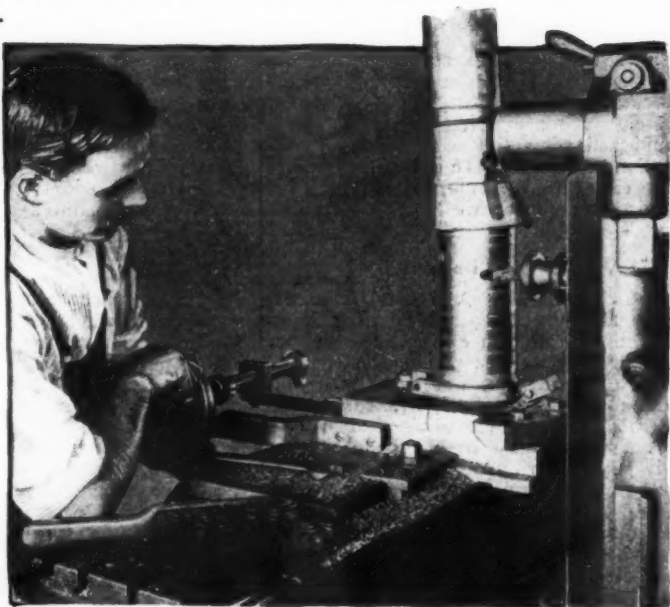

Fig. 1—Cutting the valve ports in the Knight sleeve at the Stearns factory
Fig. 1—At the top is shown the curb post forming the pump housing of the American pump. The lower half of this illustration shows the Red Sentry installation of the Bowser company
S. F. Bowser & Co., Fort Wayne, Ind.—Under the name of Red Sentry the Bowser Company makes a sidewalk pump with the self-measuring feature. The installation of this system may be seen from Fig. 1. It consists essentially of a self-measuring Red Sentry pump and an underground storage tank with connecting pipe. No pressure is used in the pressure or distributing system, the pump being all of either suction or force type, the power all being in the pump itself. Any competent plumber can install the system and the tanks in use vary in capacity anywhere above 65 gallons. The pump is located at the curb and occupies a space of 12 inches by 14 inches on the sidewalk. It is so designed that it discharges, at a single stroke, a gallon, half gallon, quart or a pint. It is only necessary to set the pump at the desired quantity by adjusting a small quantity lever. The two hinged doors on the pump lock automatically when closed, thereby preventing unauthorized persons from drawing gasoline. Within the base of the pump is an automatic filter which thoroughly cleans the gasoline of water or impurities. The pump can be equipped with an electric lamp attachment having a white glass globe with the word GASOLINE in red glass letters. The pump is also equipped with a meter which registers all gasoline drawn up to 10,000 gallons. This enables the keeping of an accurate record of all gasoline sold and in checking sales against purchasers. A discharge register tallies the number of gallons pumped from one to ten and then repeats. This is of good use in filling automobile tanks. If desirable another pump can be located inside the garage and connected with the same tank.